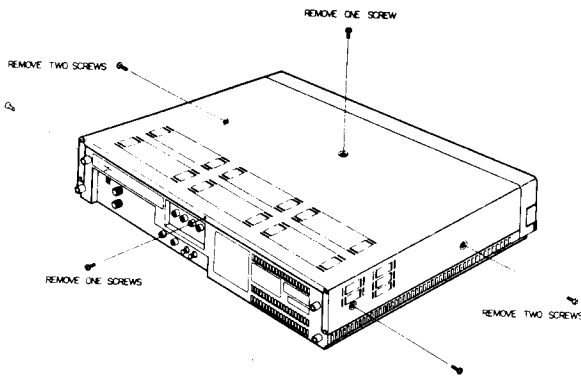

Fig. 1
(See Figs. 1,2)
(See Figs. 1 to 3)
(See Figs.1 to 4)
1. Follow the procedures for removing the panels (See Figs. 1 to 3).
3. Remove one(1) screw from the bracket on the pre-amp to remove bracket.
1. Follow the procedure for removing the panels (See Figs. 1 to 3).
1. Follow the procedures for removing the panels. (See Figs. 1 to 3)
3. Remove 2 screws (B).